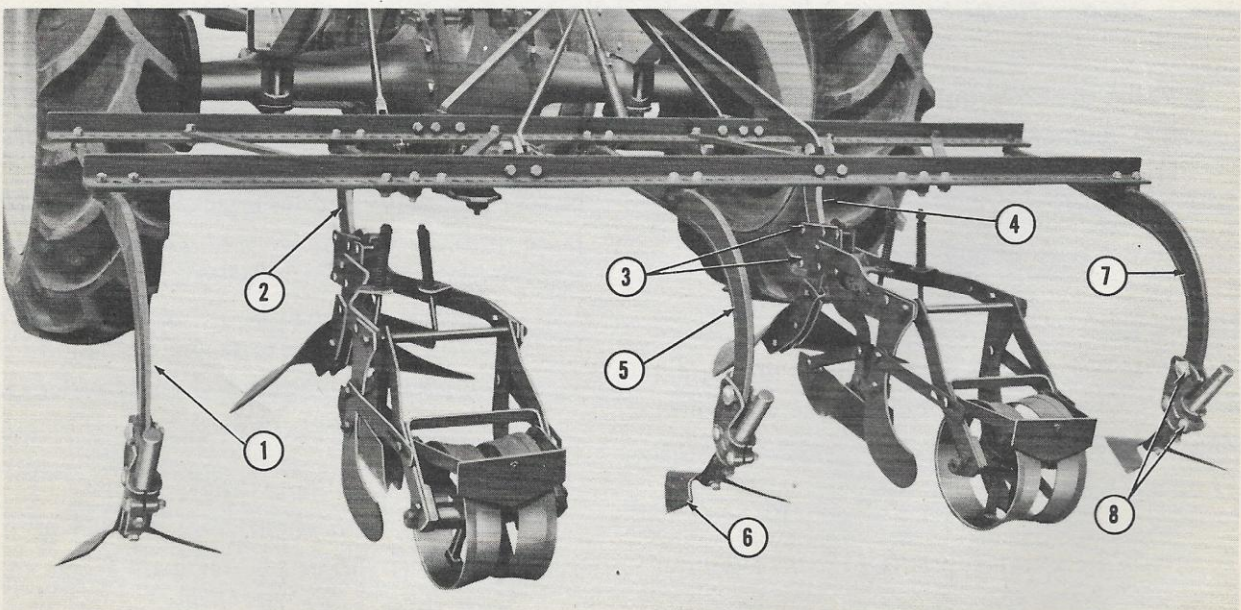
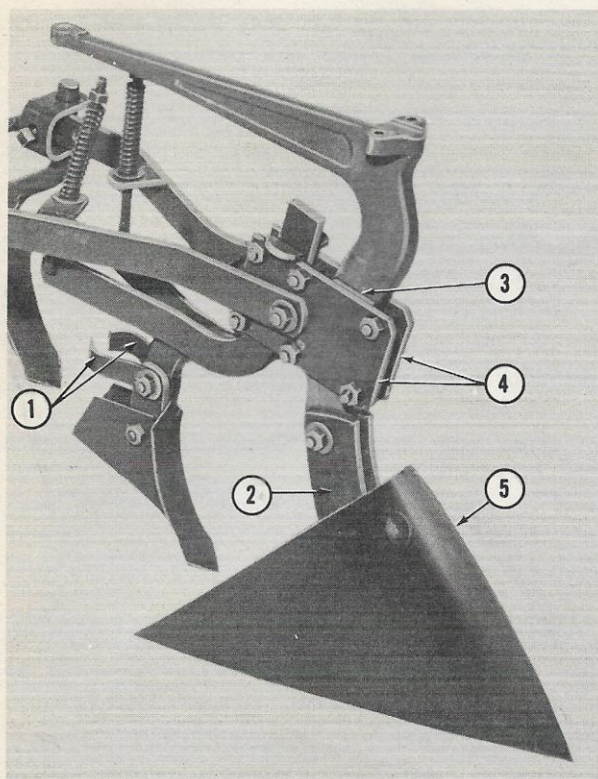

Figure 5
Figure 6
NOTE: Sweeps (6) and shanks (1), (5) and (7) as shown in Figure 5 may be used for cleaning the furrows.
6. Attach the two forward shanks (2) and (4), Figure 5, to the cultivator frame at the desired row width. Be sure the shanks are spaced equally from the center of the frame.
8. Attach one covering assembly to the cultivator shanks (2) and (4), Figure 5, as follows:
- a. Remove the two carriage bolts (3), Figure 5, from the front of each clamp bracket plate.
- b. Place the covering frames on the shanks (2) and (4) as shown in Figure 5 with the shank between the clamp bracket plates. Replace the carriage bolts (3) and secure with nuts.
NOTE: Each clamp bracket plate (4) has a welded spacer (3) as shown in Figure 6. To attach the covering assemblies to a cultivator shank, the plates (4) must be assembled with the spacers inside.
9. Attach the sweep brackets (2) and a planter sweep* of the type shown at (5), Figure 6, to the shanks (2) and (4), Figure 5, for planting flat turned or pre-listed land, or a
*Sweep shown in Figure 6 is not sold by Dearborn Motors Corporation but is available through other sources.
a. Secure the lower end of each grain tube with the clamp (1), Figure 6, provided on each opener.